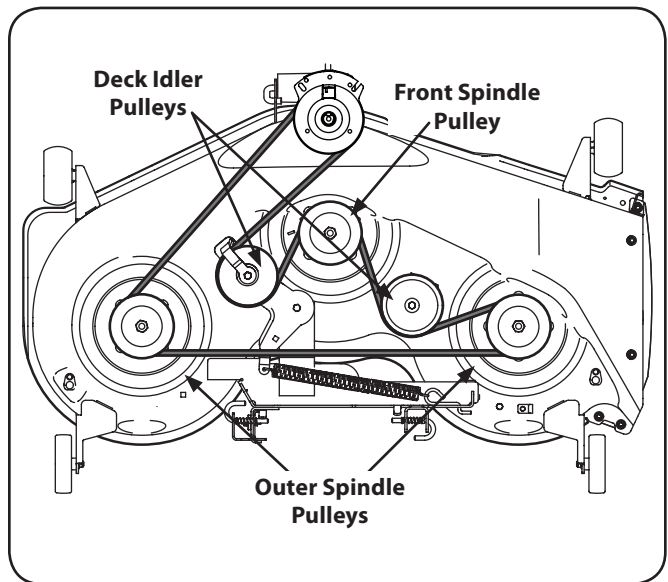

Figure 7-9
5. To install the new belt, begin by routing the belt around the two outer spindle pulleys, then around the front spindle pulley as shown in Figure 7-9.